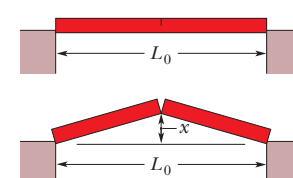

Figure 18-32 Problem 21.
•21 SSM ILW As a result of a temperature rise of  $32^\circ\text{C}$ , a bar with a crack at its center buckles upward (Fig. 18-32). The fixed distance  $L_0$  is 3.77 m and the coefficient of linear expansion of the bar is  $25 \times 10^{-6}/^\circ\text{C}$ . Find the rise  $x$  of the center.